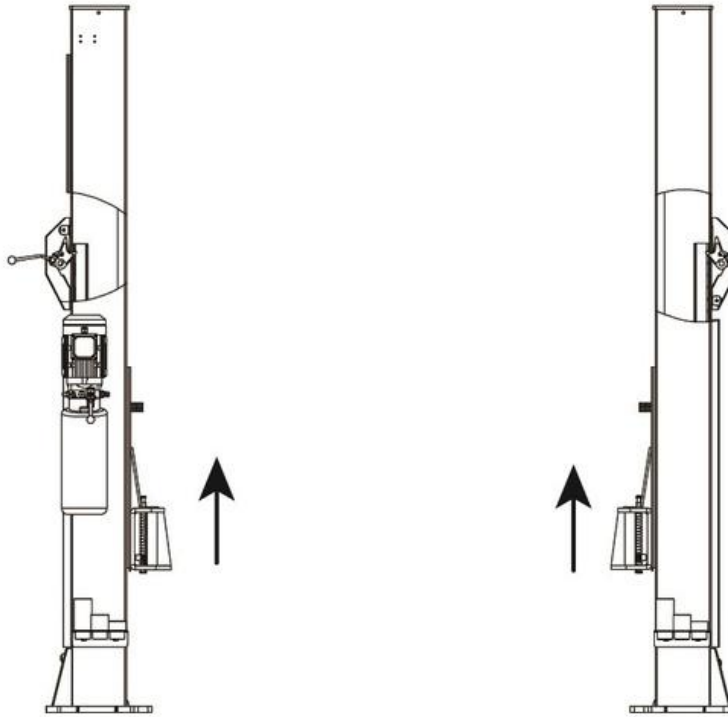

FIG 8
**Install Anchor Bolts (Fig 8)**
1. Adjust the distance between 2 columns as required dimensions (Fig 8).
Note: Anchor bolts driven into the ground at least 150mm.(See Fig 8)